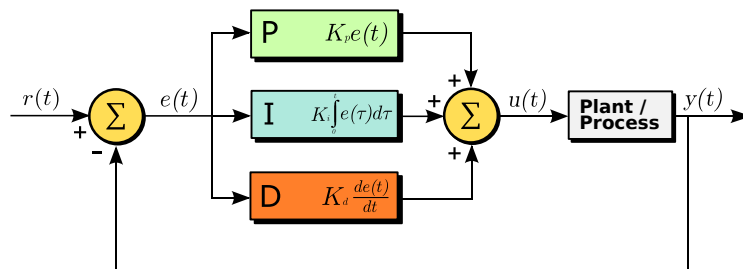

Figure 4: PID controller (source: wikipedia)
standard in control to solve this problem is the PID (proportional–integral–derivative) controller, see figure 4.
For this part of the lab you will need to use two PID loops, one for controlling the power given to the left wheel and the other one for the right wheel. The PID controller is already implemented as part of the standard distribution of *March*, it can be found in the *march_control* library. It has a single output, which is the update $u(t)$ in figure 4. It takes four inputs:
- `control` (`std_msgs/float64`) a number which correspond to the target velocity ($r(t)$ in figure 4)
- `observation` (`std_msgs/float64`) a number which correspond to the odometry value ($y(t)$ in figure 4)